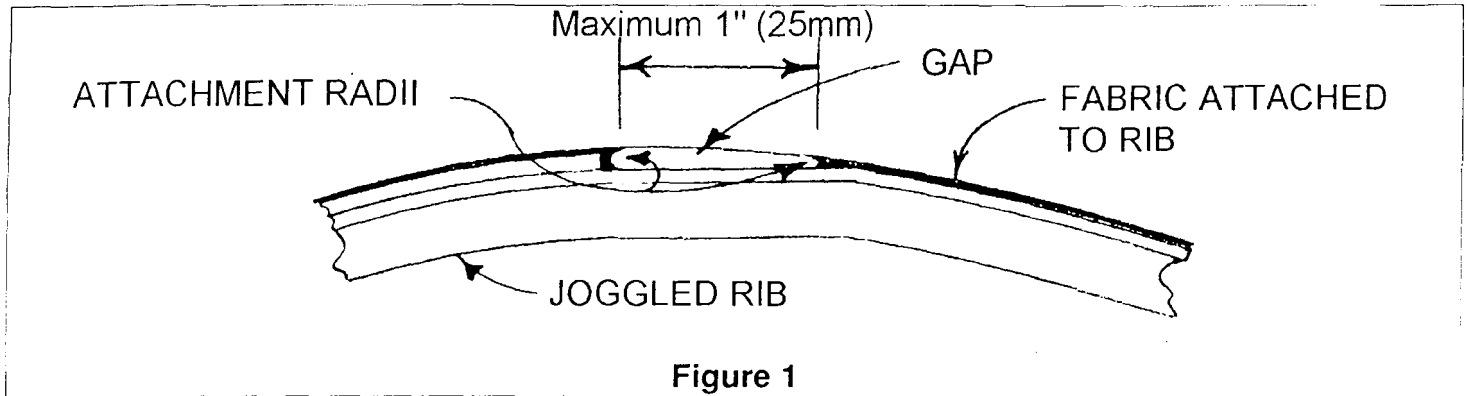

Figure 1
- c. Generally, there should be 90% attachment to any structural member. Around rivets, lumpiness, joints for skins, gussets and leading or trailing edges will leave attachment gaps. These are normal and allowed except that any one attachment gap should not exceed 1" (25mm) with no breaks in attachment radius. See Fig 1
See Figure 1 next page